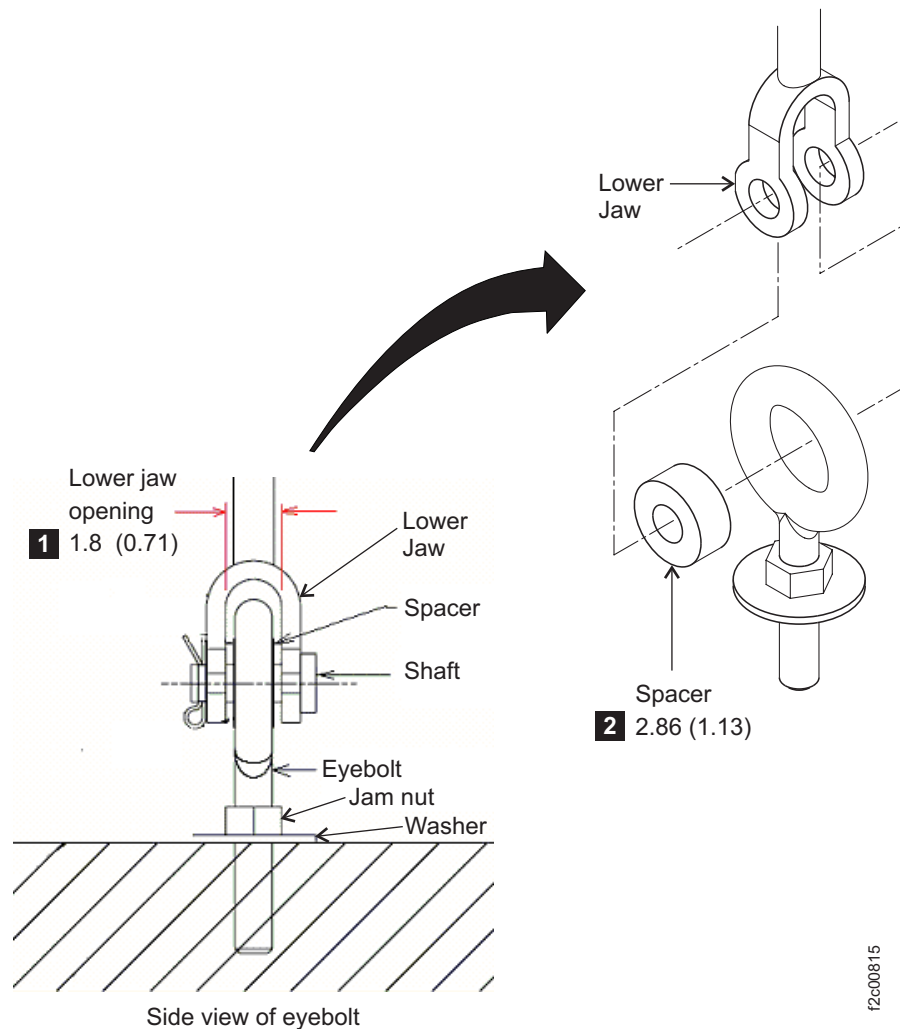

Figure 22. Eyebolt required dimensions. Dimensions are in millimeters (inches).
- The dimensions of the eyebolt must allow the turnbuckle lower jaw of the kit to fit over the eyebolt (**1** on Figure 22 on page 127) and allow the spacer of Earthquake Resistance Kit to fit inside the eye (**2** on Figure 22 on page 127).